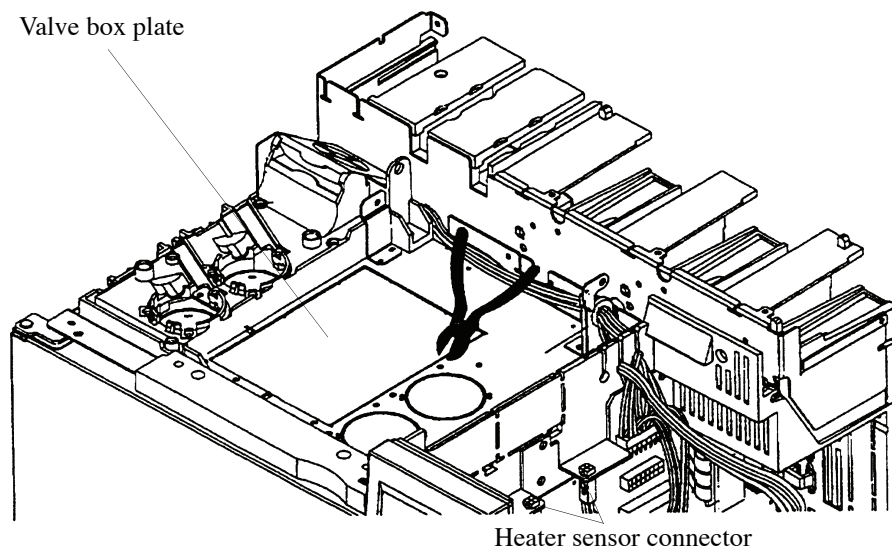

Figure 4.8. Valve box plate
1. Cut out and remove the valve box plate (Figure 4.8).
9. Connect the cable heater-sensor extension (PN 296368) to the existing heater cable. Connect the other end of the heater cable to the corresponding four-pin nylon sensor connector located in the electronics area above the GC motherboard (Figure 4.8).